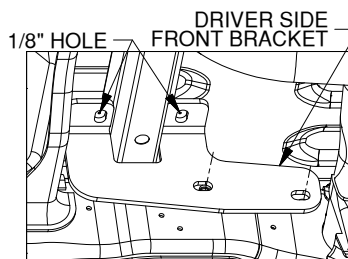
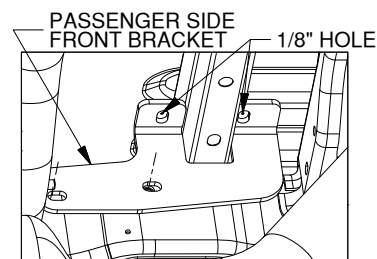

FIGURE A3: View looking up at the inside of driver side frame.
FIGURE A4: View looking up at the inside of passenger side frame.
2. **Check hole locations.** Locate the driver side front bracket. Position and hold the bracket flat against the inside of the frame where it will be installed see figure A3. Check that the 1/8" pilot holes are centered within the slots in the frame brackets. If the 1/8" drilled holes are not centered within the slots, re-drill the 1/8" holes until the brackets and the drilled holes are aligned. Repeat the process for the passenger side using the passenger side rear bracket, see figures A4.